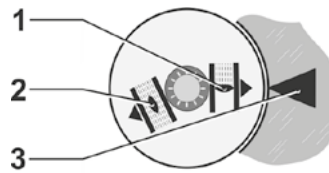
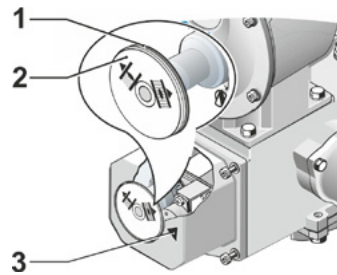

Fig. 1: Position indicator symbols
Fig. 2: Adjust position indicator
3. Turn white disc with red symbol (fig. 2, item 1) until the symbol for CLOSED (fig. 1, item 1) and the arrow (3) are aligned in the indicator glass of the cover.
5. Hold white disc (fig. 2, item 1) in position and turn transparent disc (2) until the green symbol for OPEN (fig. 1, item 2) and the arrow (3) are aligned.